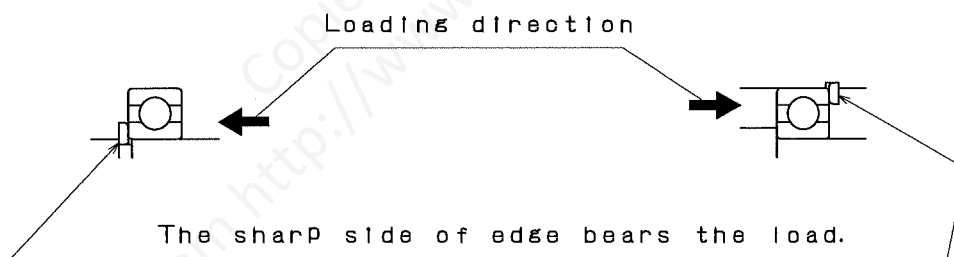

Fig.11
- Always replace the split pin and Retaining ring(43) with new ones at reassembly.
- 1) Assembling direction for Retaining ring (See Fig. 11)